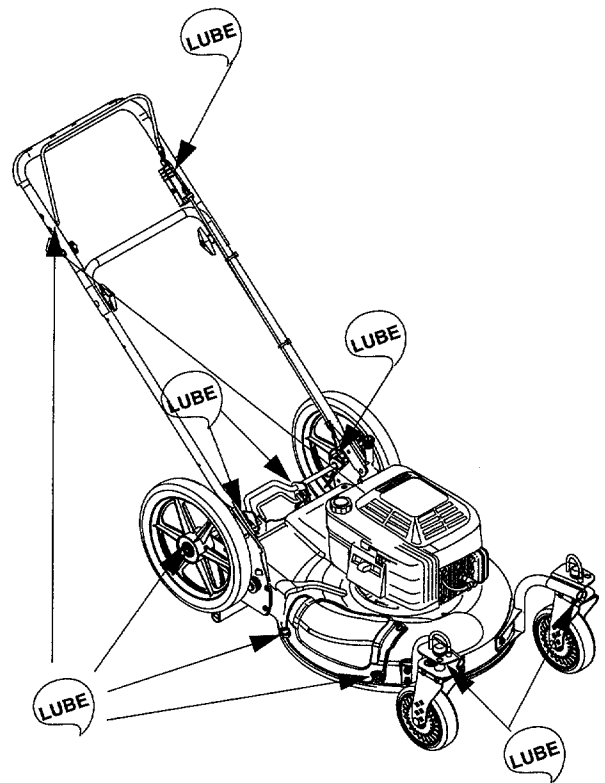

Figure 12
- Lubricate the pivot points on the blade control handle and the brake cable at least once a season with light oil. The blade control handle must operate freely in both directions. For complete lubrication chart, see Figure 12.
- Lubricate mower following the lubrication chart in Figure 12 of this manual.